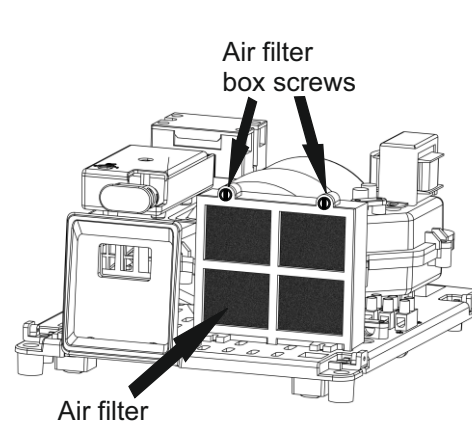

Fig. 8
- 2) Once the outer cover is removed, remove the screws for the air filter grill as shown in Fig. 8.